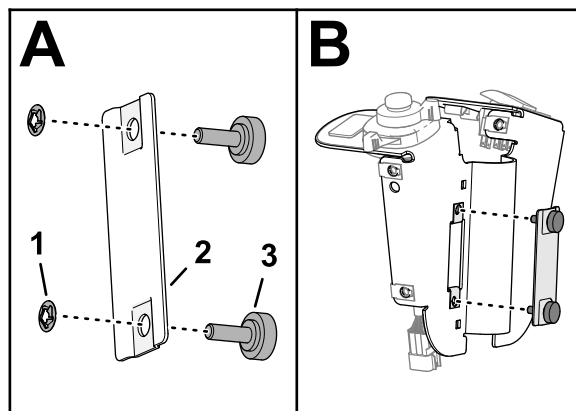

Figure 31
6. Assemble the 2 knobs into the fuse cover, and secure the knobs with 2 bolt retainers (Figure 31).
7. Assemble the fuse cover to the switch plate, and tighten the knobs (Figure 31).